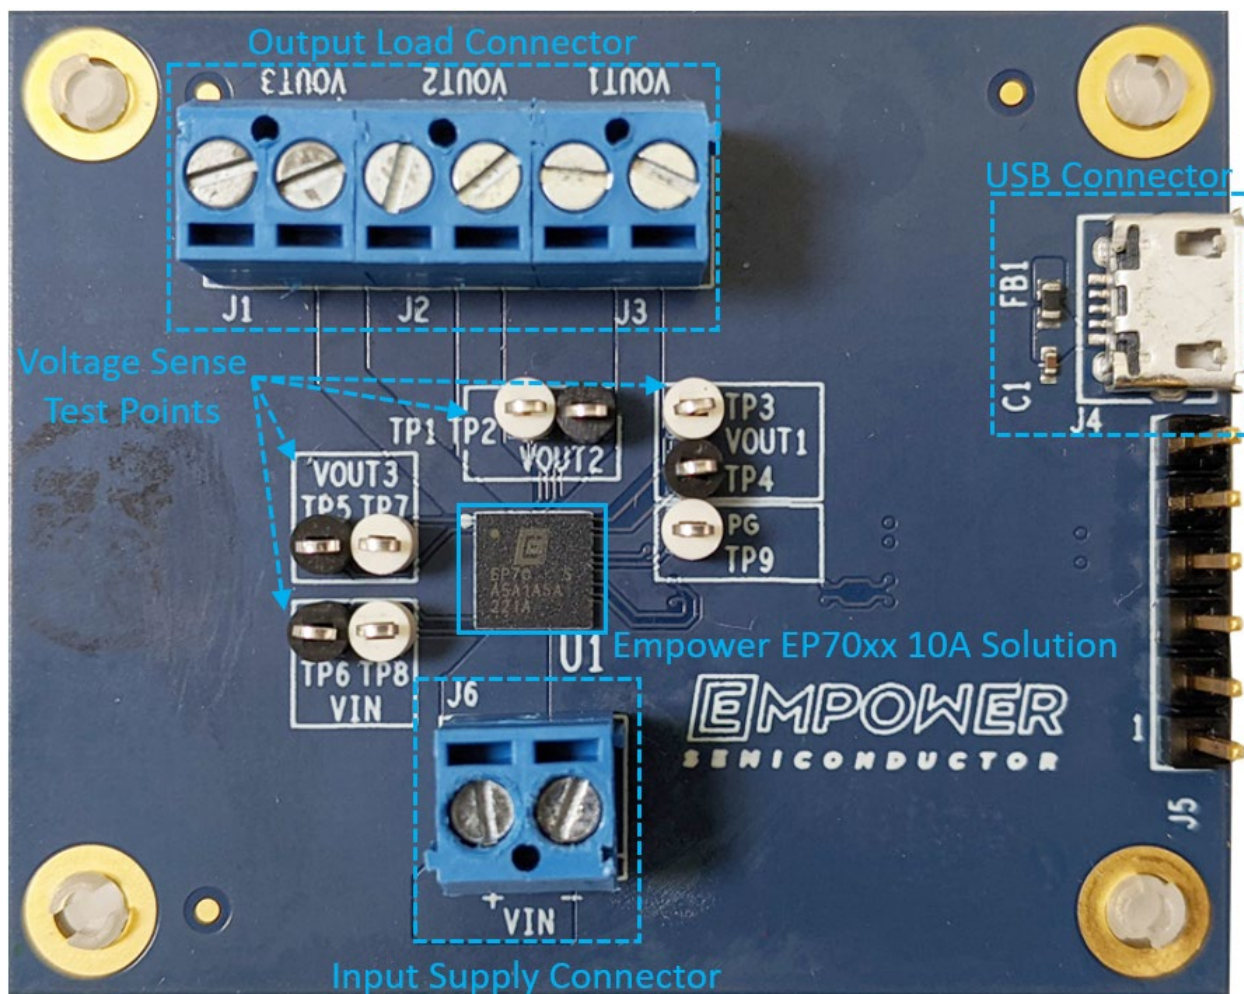

Figure 2. Top View of EP7038C Demo Board
1. Ensure an appropriate bench power supply programmed to provide 1.8V is connected to the demo board input connector (J6). Refer Figure 2.
The EP70XXC Demo Platform includes test points for measuring the EP70XXC input voltage and the output voltage of each VR (refer to Figure 2). Each voltage measurement is Kelvin-sensed at the EP70XXC package so that losses on connectors and PCB traces are not included in the measurements. Input current and load current measurements are required to be performed externally through meters.